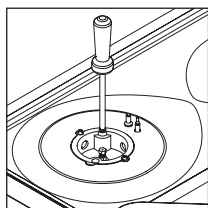

figure 1
- 5 Unscrew the orifices and replace them with the correct ones. (size numbers are stamped on the side, eg. 70= 0.70 mm) (see figure 1)